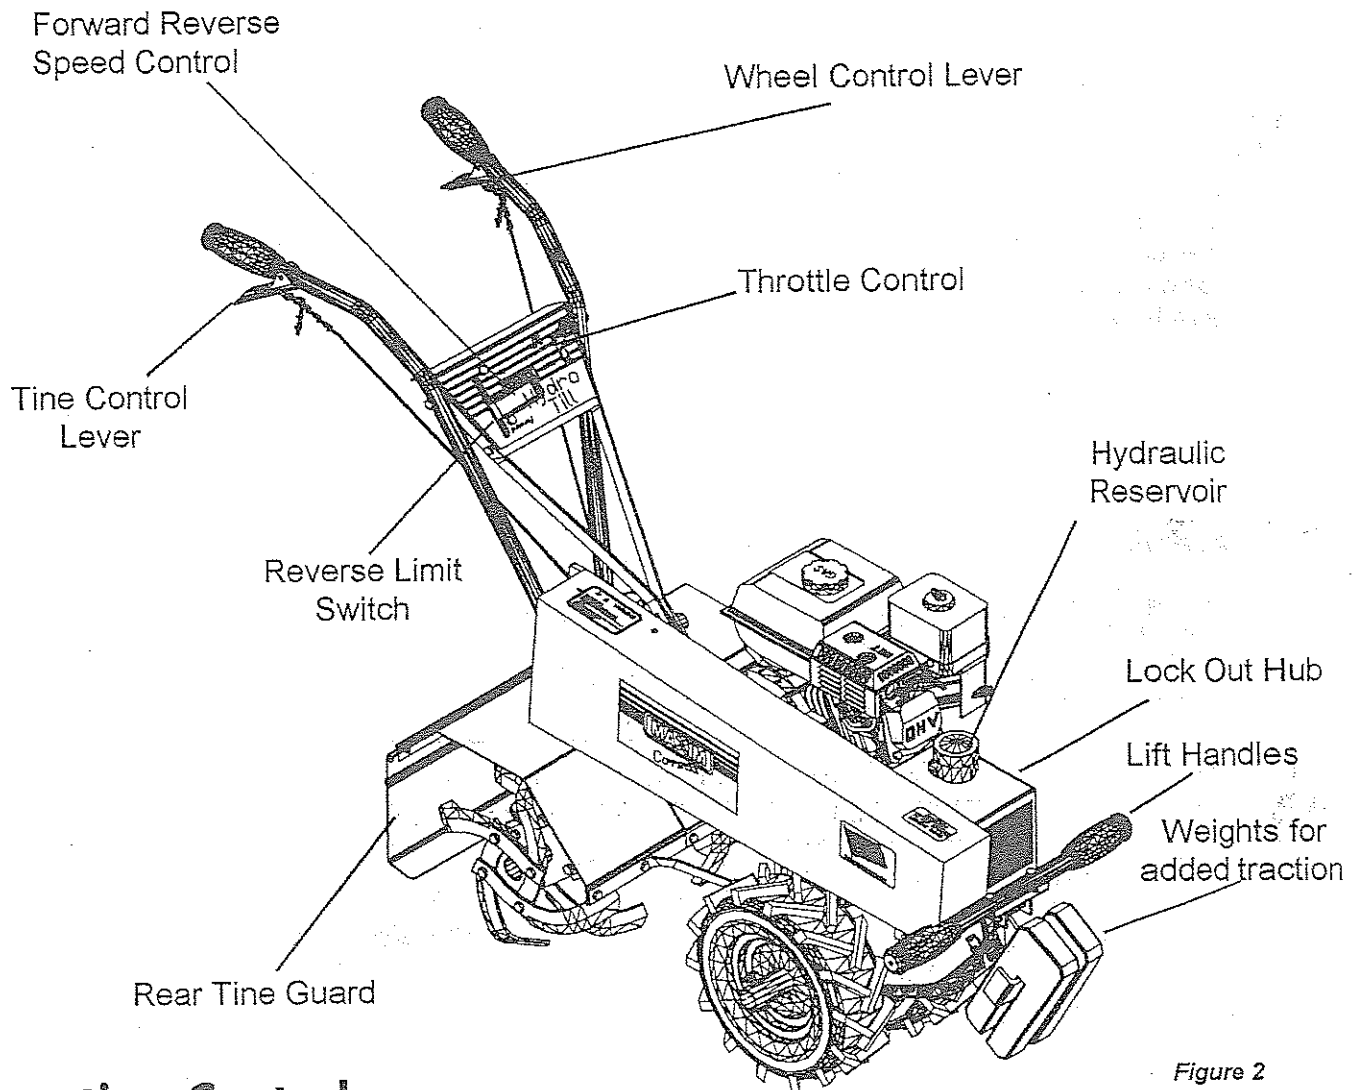

Figure 2
2. Check hydraulic fluid. **To check fluid** place tiller on level ground. Remove cap. (See figure 2). Fluid should come to the fill line. If fluid is needed add Mobil 1 SAE 15W-50 Synthetic Motor Oil. **Do not mix different types of fluid.**